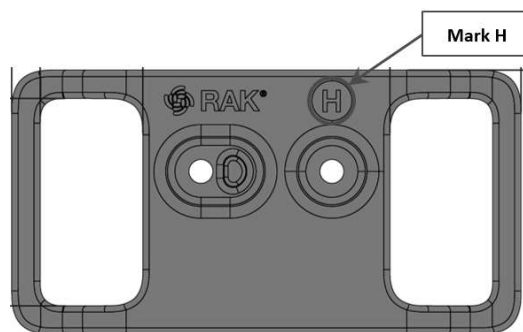

Figure 34: Mount accessory marked with the letter H
1. For belt loop mount, use two (2) pieces of mount accessories with an indicator marked with the letter **H**, as shown in **Figure 34**.